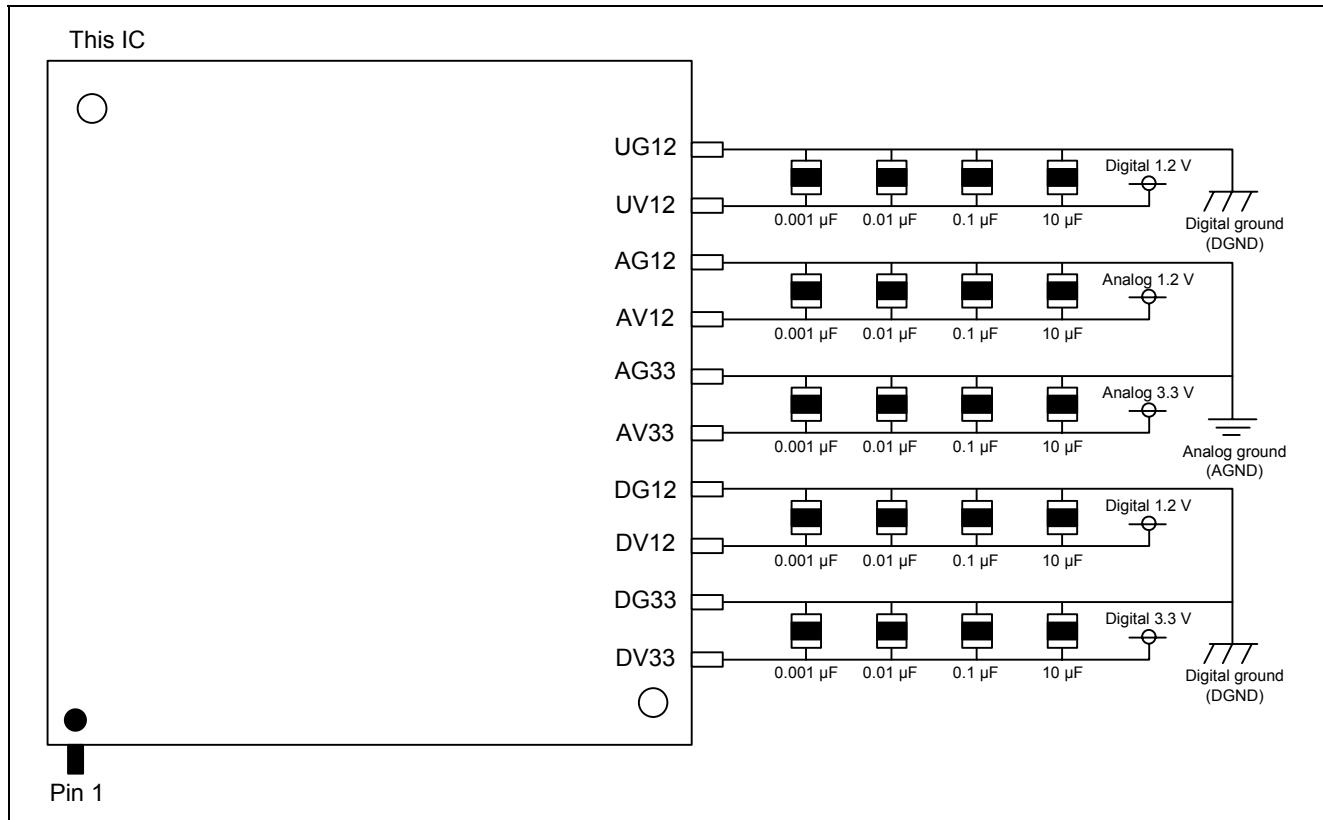

Figure 3 Decoupling Capacitor Positioning Example
- We recommend locating the decoupling capacitors with values of 0.001 µF, 0.01 µF, 0.1 µF, and 10 µF near the USB power supply pins. Figure 3 shows an example of decoupling capacitor positioning.